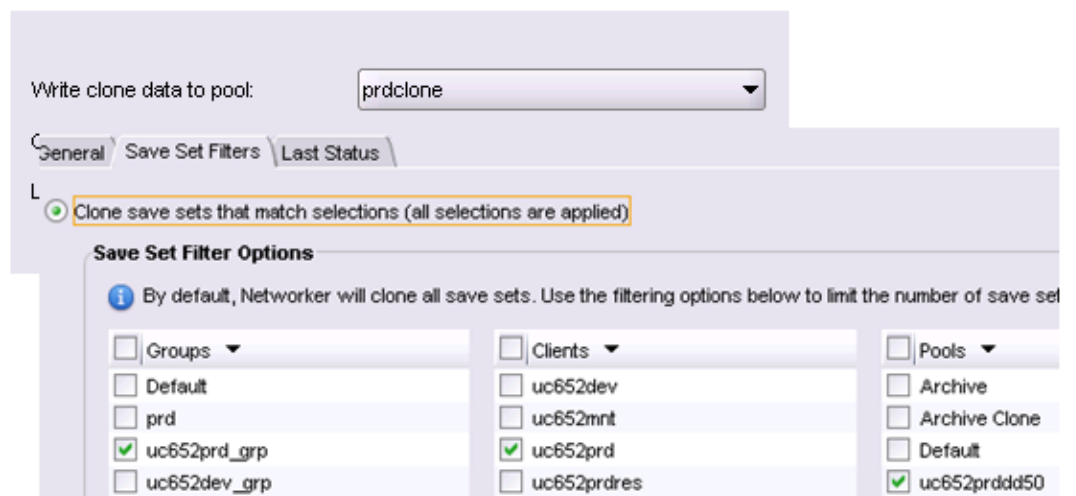

Figure 11. Create the Data Domain Replicator clone job
4. Create a scheduled clone job in the **Configuration** view. Specify the clone pool created in step 1 as the **Write clone data to pool** attribute. Select **Clone save sets that match selections** to limit the save sets to be cloned as shown in Figure 11.